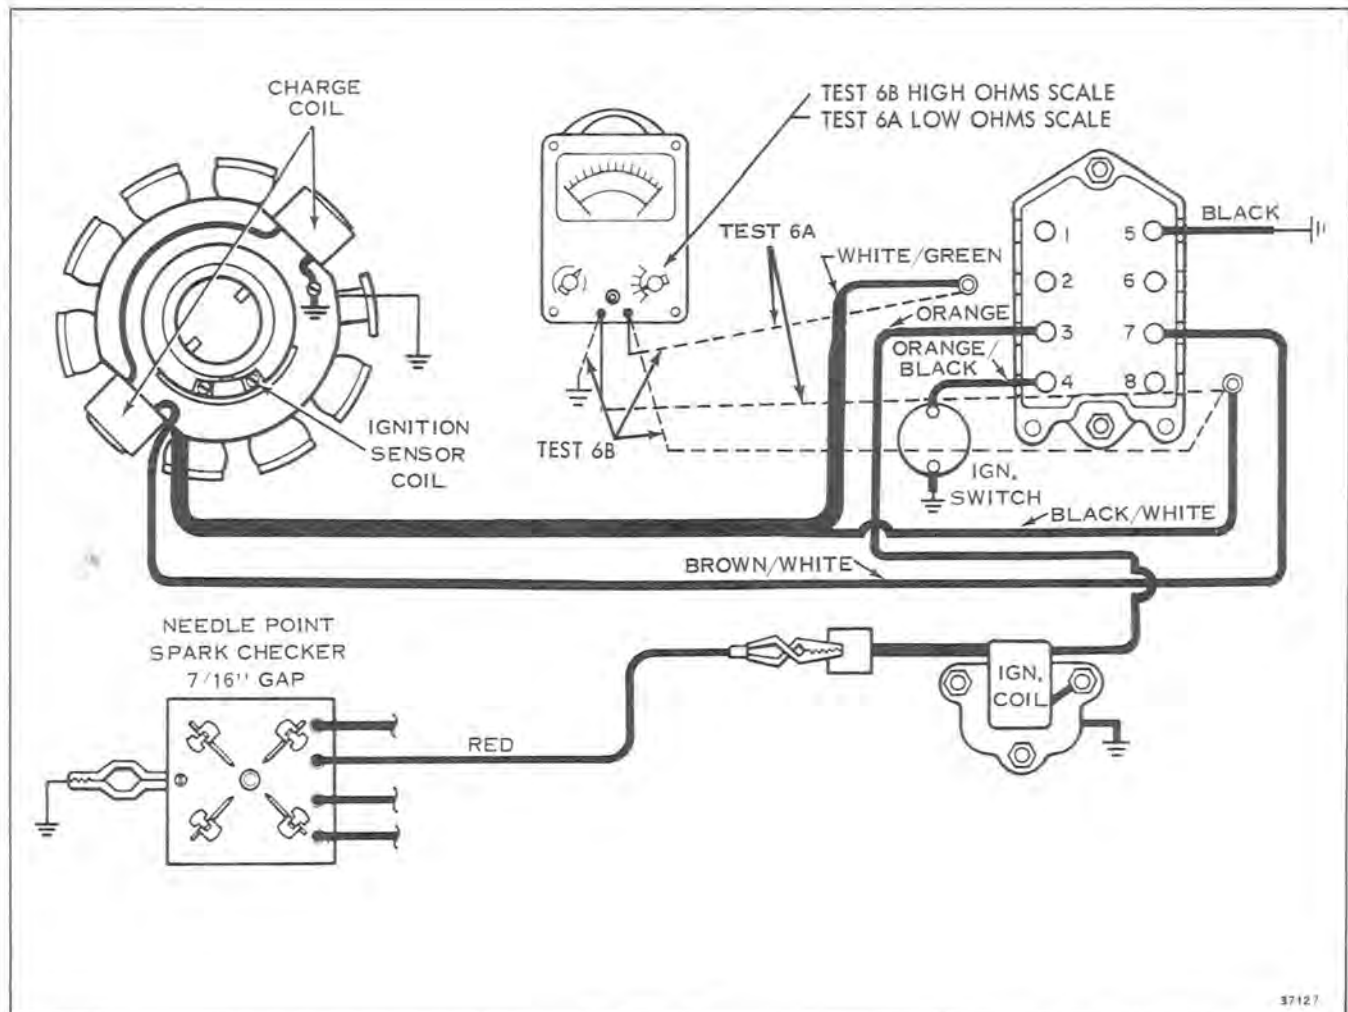

Figure 7-17
- A. Remove the white/green stripe lead from terminal #2 and the black/white stripe lead from terminal #8. Check for 26 to 30 ohms resistance between leads #2 and #8. See Figure 7-17. If ignition sensor coil resistance does not come within these tolerances, it must be replaced. Check on low ohms scale.